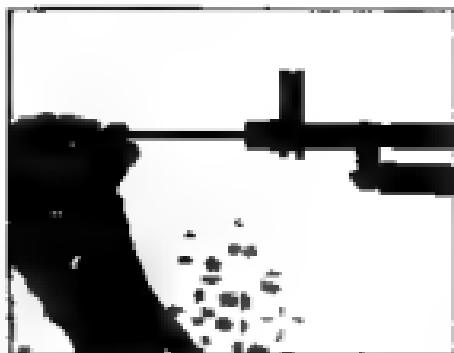

Figure 15
- 2 Saturate the bore brush with gun solvent and push through the length of the barrel. (Figure 15) If using corrosive primer, this step is very important to remove the corrosive residue from the barrel of your rifle.